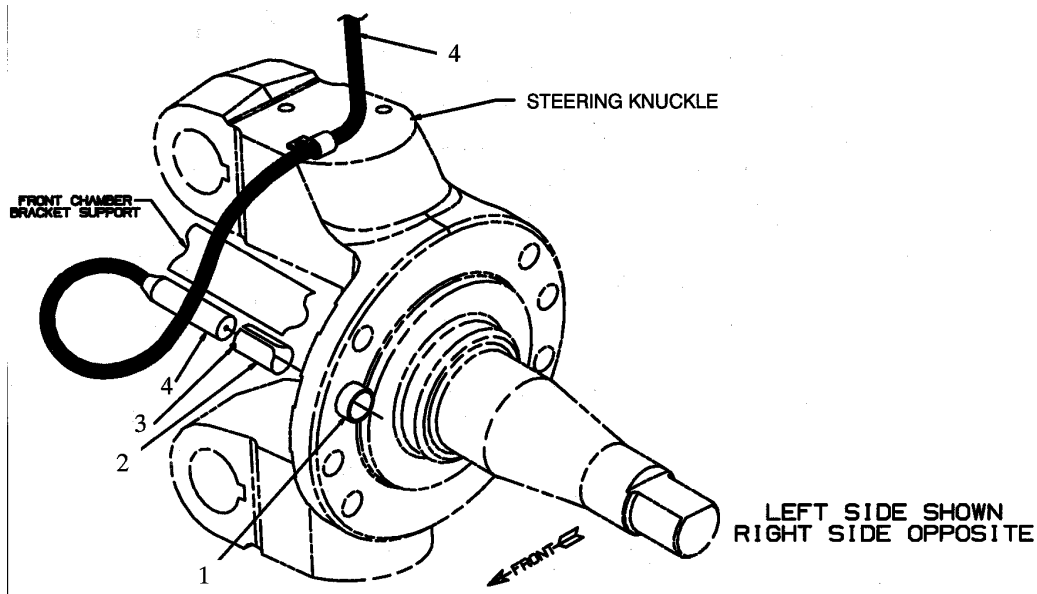

Figure 40 Typical Front Axle, Wheel Sensor Installation
5. **Front Sensor**— Install the sensor into the retainer and sensor bushing from the backside of the steering knuckle. Push the sensor as far as possible through the sensor bushing. Refer to Figure 40 . No further adjustment is necessary.